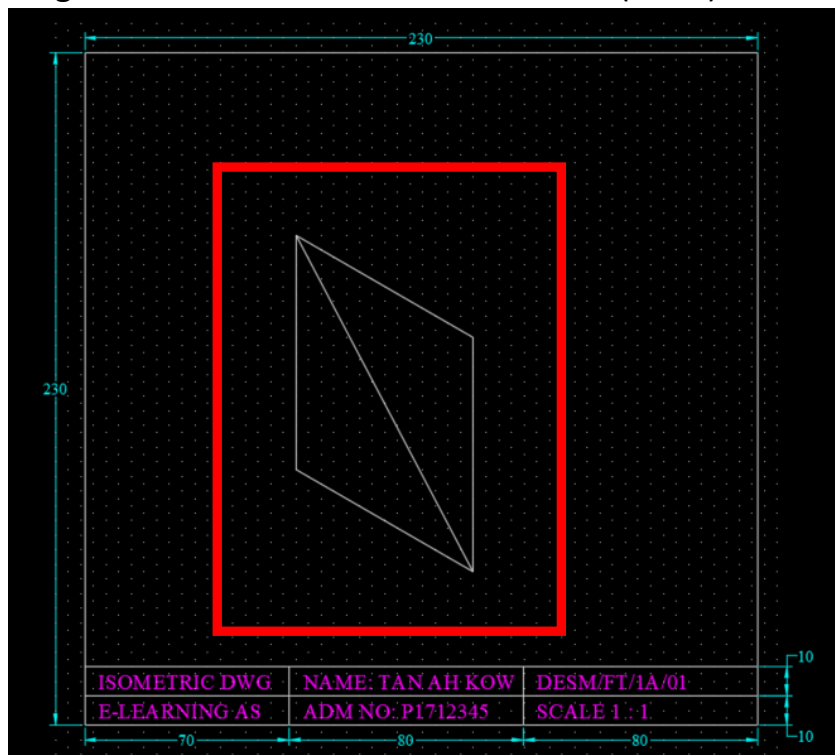

FIG 4
7. Draw a isometric rectangle that looks like a parallelogram using line command with a diagonal line across as construction line (FIG 4):